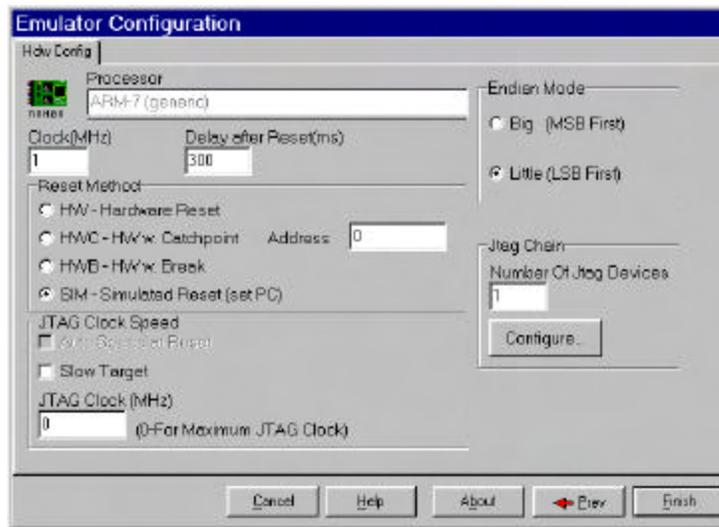
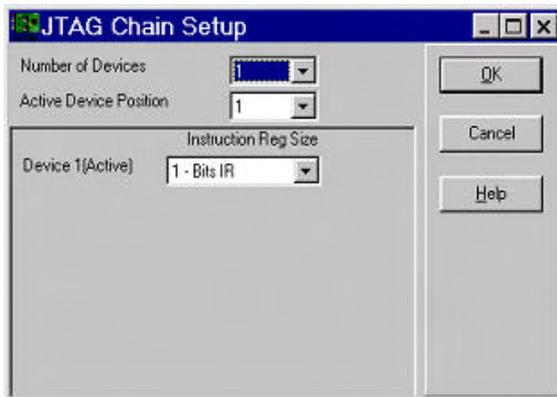

Figure 5: Emulator Configuration Window Displaying the Hdw Config Tab
Figure 6: JTAG Chain Setup Screen.
5. Click **Next**. The **Hdw Config** tab opens (Figure 5).
- **JTAG Chain** configuration is used if the ARM device is not the only chip connected to the JTAG, or if the chip has multiple JTAG controllers (Figure 5).
This button is used to configure the number of devices and the Instruction Length for each device. This is only available during the initial configuration. If you click the **Configure** button, Figure 5 or Figure 6 appears depending on the number of devices that were entered.
This is used to set the total number of devices in the JTAG Scan Chain (Figure 6).
- **Instruction Reg Size:** There will be a drop down list for each of the devices. If the number of devices is set to more than one, there will be a drop down list for each device (Figure 6).